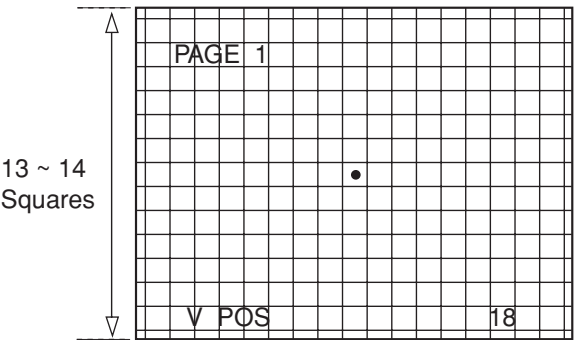

Fig. 1-3
- Use the volume keys on the jig remote controller to adjust the number of the squares of the crosshatch pattern to 13~14. (Fig. 1-3)